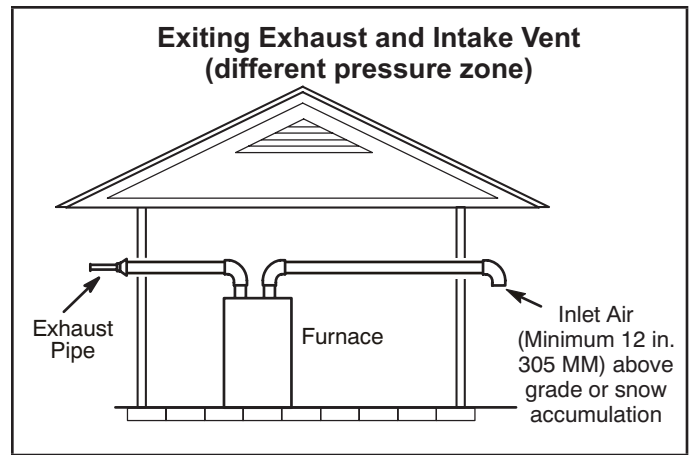
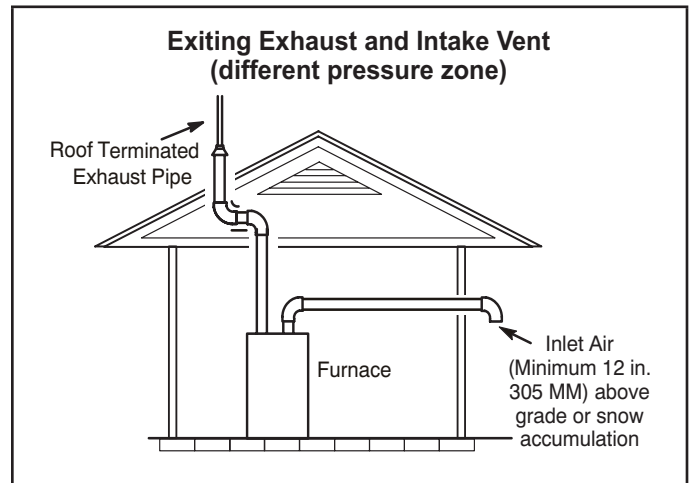

FIGURE 33
FIGURE 34
- 1 - Intake and exhaust terminations are not required to be in the same pressure zone. You may exit the intake on one side of the structure and the exhaust on another side (FIGURE 33). You may exit the exhaust out the roof and the intake out the side of the structure (FIGURE 34).